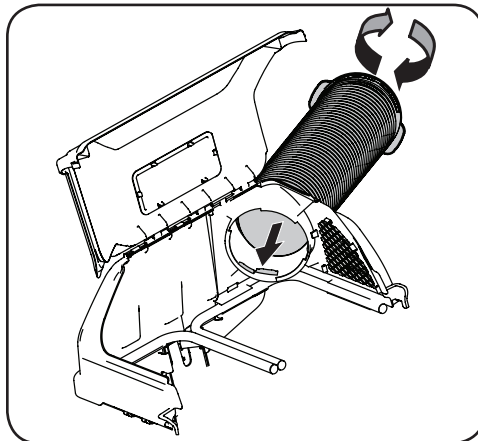

Figure 4-20
1. Thread the upper end of the chute tube securely into the upper chute support. There are two tabs on the lower inside part of the upper chute support to allow for secure threading. See Figure 4-20.